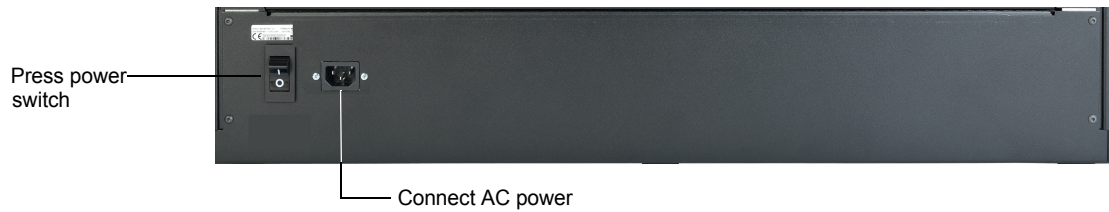

Figure 2-4 Connect AC Power and Turn On Monitor
4. Connect the PRM-4220 power cable to an AC power source, then press the power switch to turn on the monitor, as shown in Figure 2-4.